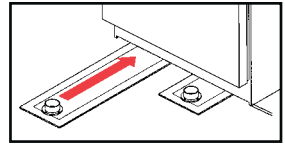

Figure 2
- Slide the air plates under the load, and check the gap between the top of each plate and the bottom of the load. If the gap is less than 1 3/4", the load may be lifted without any extra blocking to make up the gap. (See figure 2.)